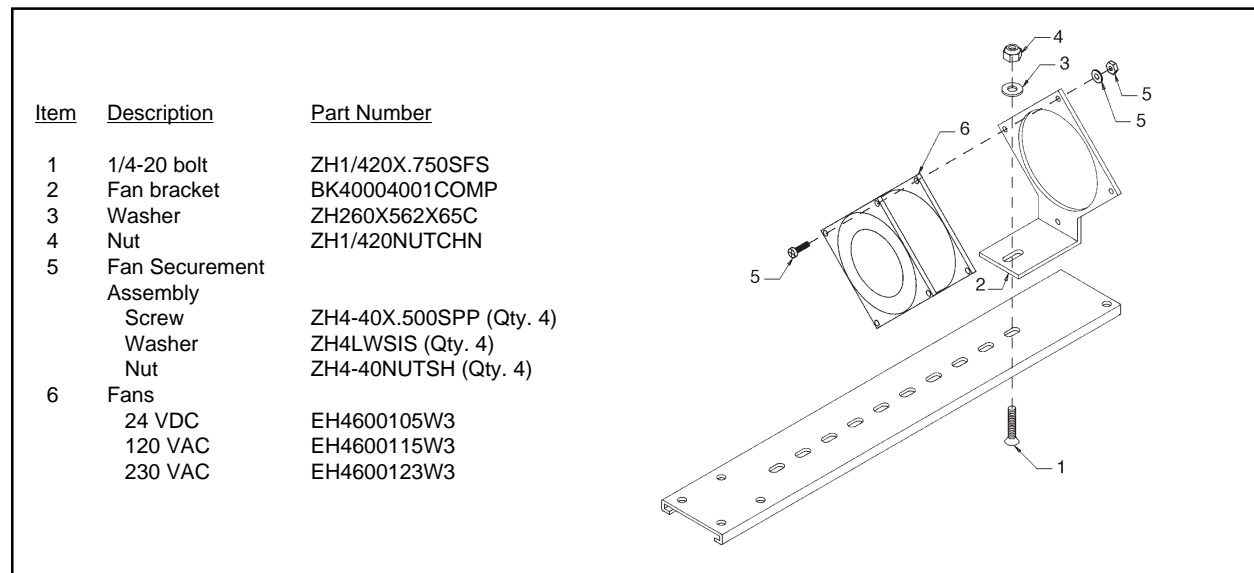

Figure 1. BKMT10 Series Blower Kit Installation
2. Assemble blower/blower bracket to sled as shown in Figure 1, items 1-4.